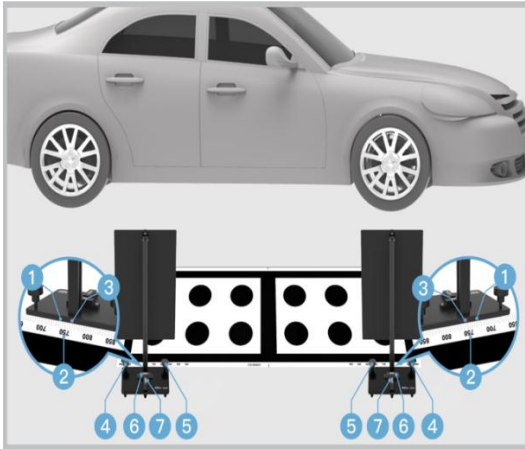

Figure 3-53 Position and Adjust the Calibration Tools
3. Place the two assembled calibration tools as displayed in Figure 3-53. Ensure the side (①) with the marked line on the base of the target board holder attaches to the edge of the ruler (②) on the pattern.
4. Move the target board holder left or right to aim the marked line (③) at 775 on the ruler (②).
5. Rotate the bolts (④) and (⑤) so that the bubbles in the bubble levels (⑥) and (⑦) are centered.